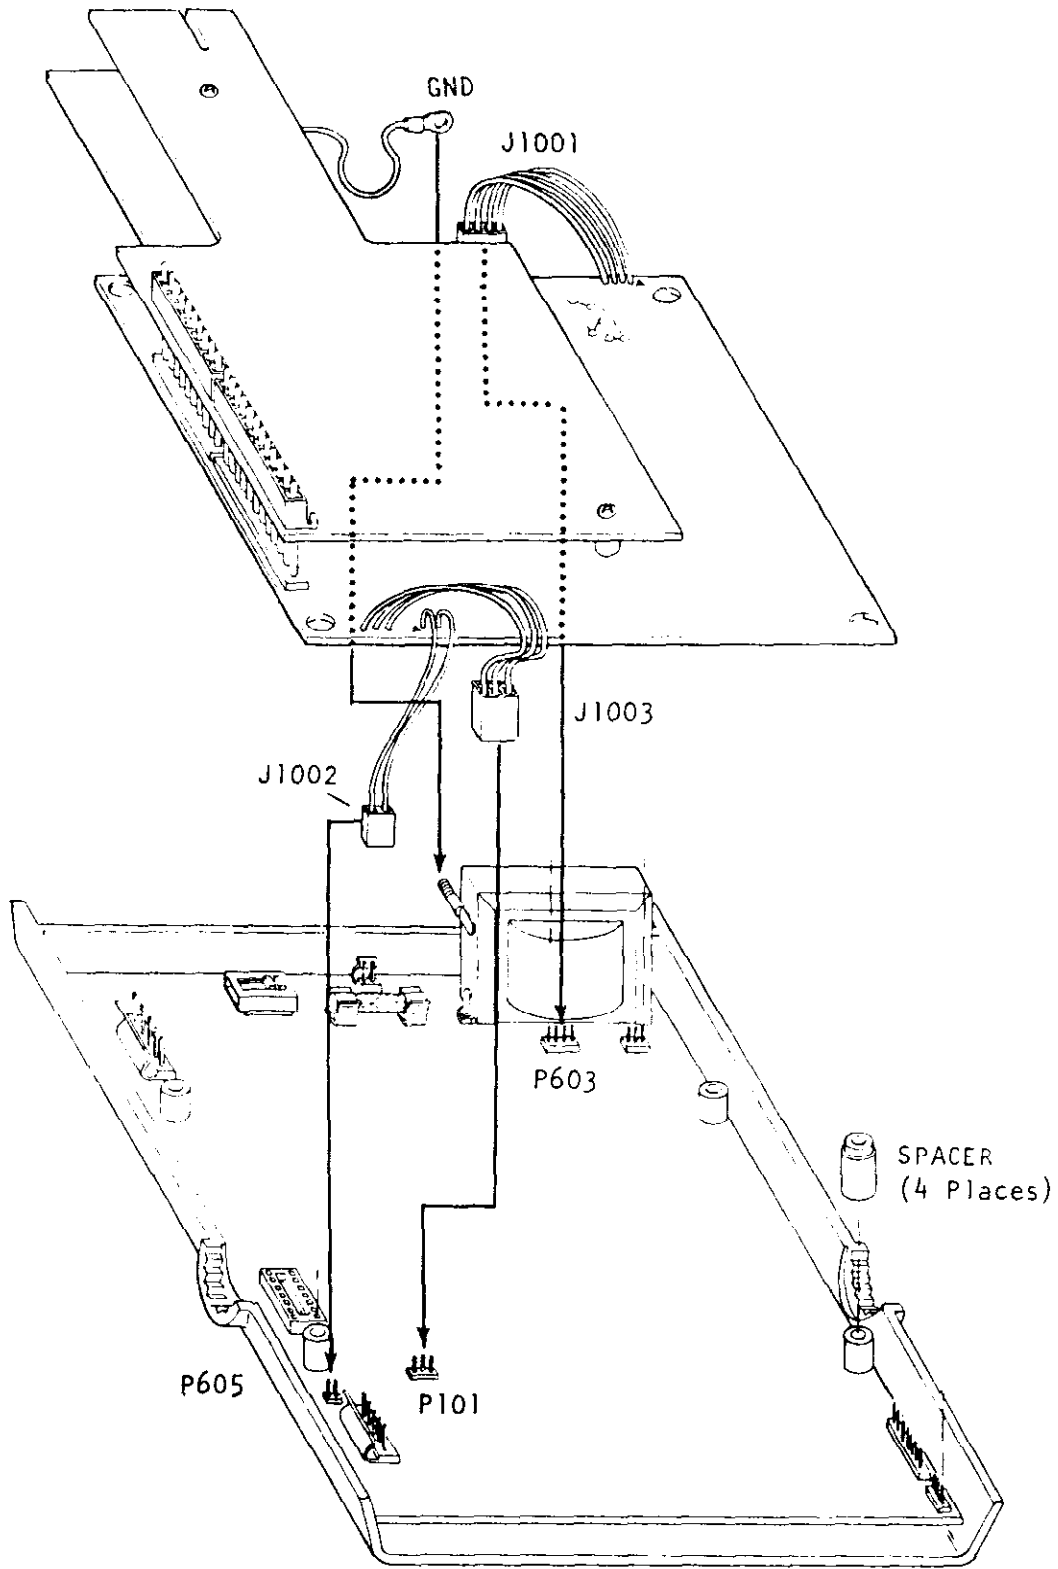

FIGURE 16. Installation of Model 172.
7. Check to see that the four insulating spacers are in position on the circuit board as shown in Figure 16.
8. Place the Model 1722 on the spacers as shown in Figure 16.
d. How to Select Vext Using Internal Jumper. The Model 1722 may be wired for use with internal or external voltage references and internal pull-up resistors. (See Figure 16.)